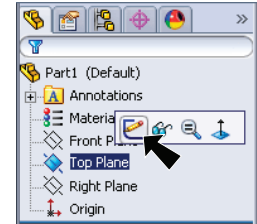

Fig. 1
Step 2. Click **Top Plane**  in the Feature Manager and click **Sketch**  from the Content toolbar, **Fig. 1**.